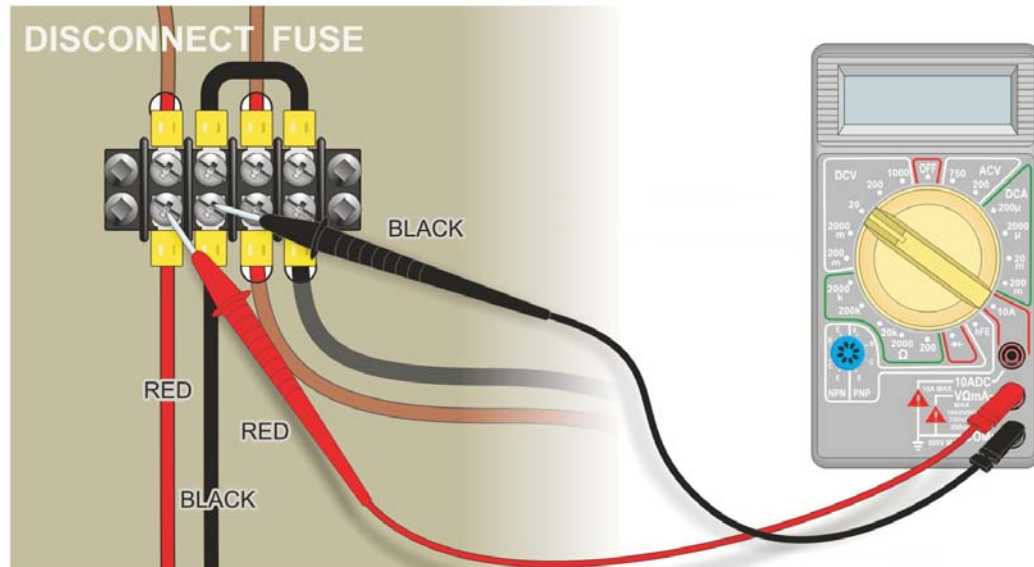

Figure 6-18:
9. Connect the multimeter's leads to the PV array's charging leads at the lower left terminal of the PV Control Panel connection block, as illustrated in Figure 6-18.